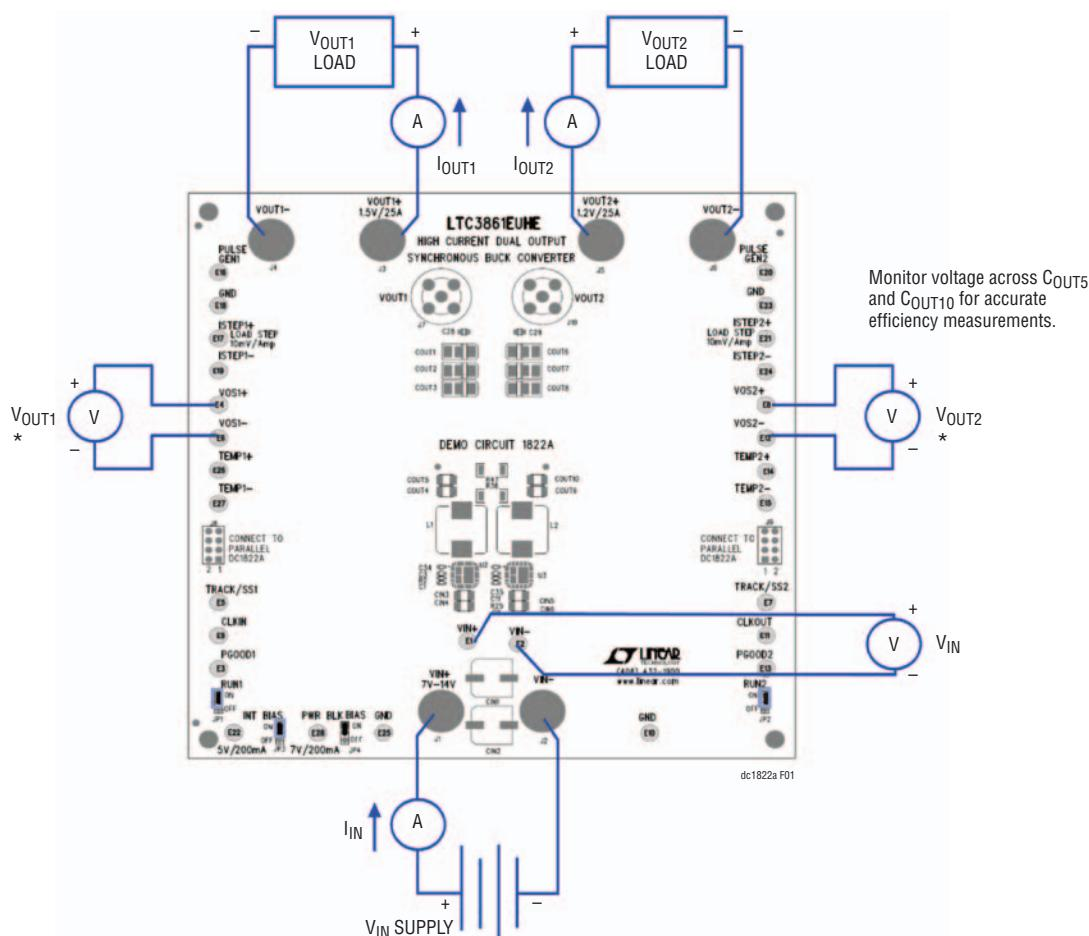

Figure 1. Proper Measurement Equipment Setup
Demonstration circuit 1822A is easy to set up to evaluate the performance of the LTC3861EUHE. Please refer to Figure 1 for proper measurement equipment setup and follow the procedure below.
1. With power off, connect the input supply, load and meters, as shown in Figure 1. Preset the load to 0A and  $V_{IN}$  supply to be 0V. Place jumpers in the following positions: